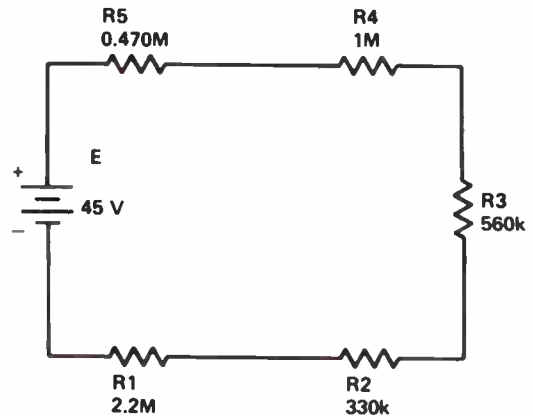

Figure 5. A series circuit with five resistors.
Another circuit containing five resistors is shown in Fig.5. Some of the resistor values are given in megohms (M), others in kilohms. Before you can add the values together to get the total resistance, you must convert all the resistances to the same unit. You can convert all the values to ohms, kilohms, or megohms. It doesn't matter which unit you convert to, as long as they are all the same.